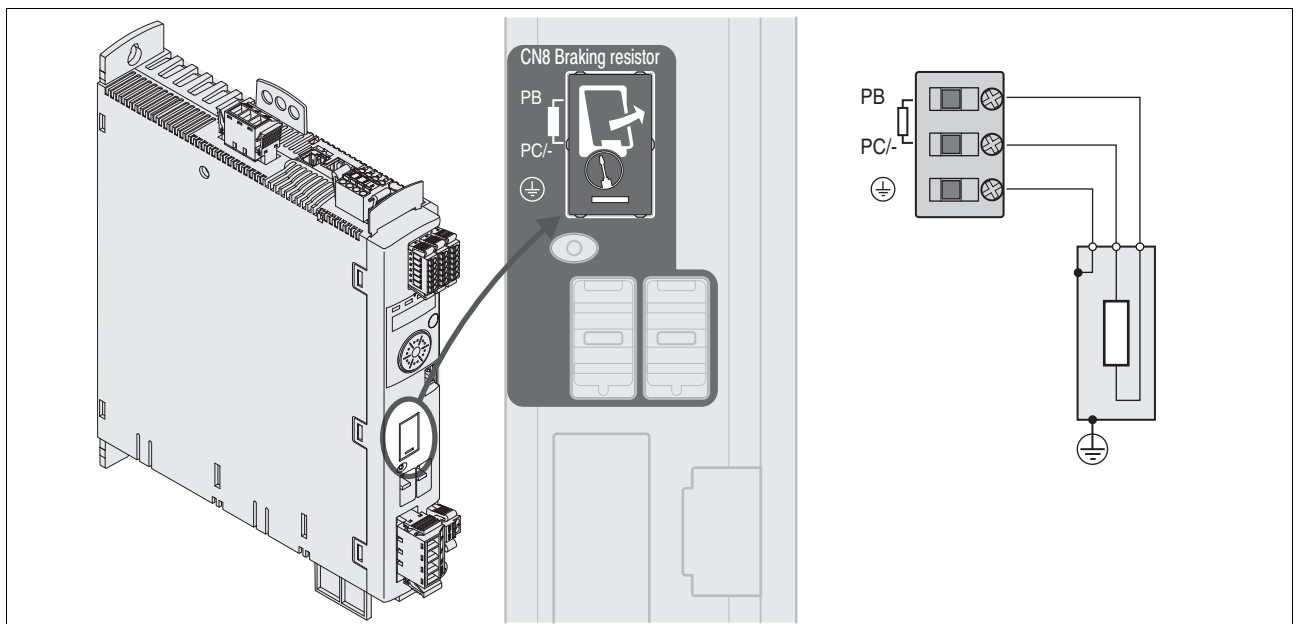

Figure 6.8 Wiring diagram external braking resistor
- ▶ Ground the ground connection (PE) of the braking resistor.
- ▶ Connect the external braking resistor to the device, see Figure 6.8. Note the tightening torque specified for the terminal screws.